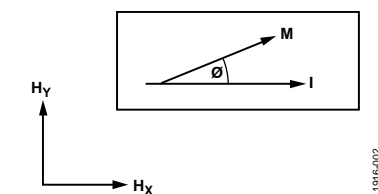

Figure 2. Anisotropic Magnetostrictive Example
An example of the AMR effect is shown in Figure 2. A current (I), flowing through a conductor, is subject to an external magnetic field (H_y). The resistance of the conductor changes as a function of the angle (θ) between the magnetization vector (M) and the current flow vector (I). The magnetization vector is the net sum of the internal magnetic field (H_x) and the applied external magnetic field (H_y).